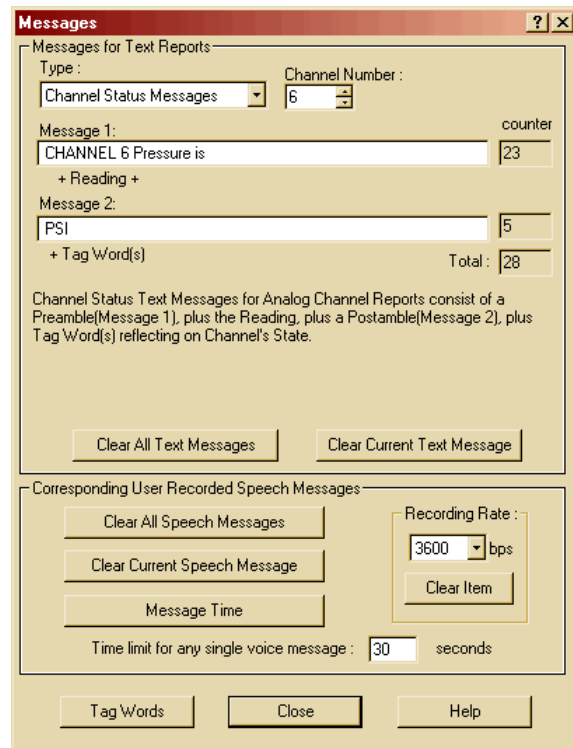

Figure 44: Messages, Channel 6
43. Change the **Channel Number** to **6** and edit it as shown Figure 44..